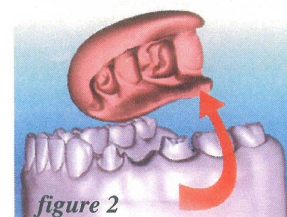

figure 2
2. Make a silicon putty mold or impression from the wax model (*figure 2*). Remove the wax patterns and lubricate the model.